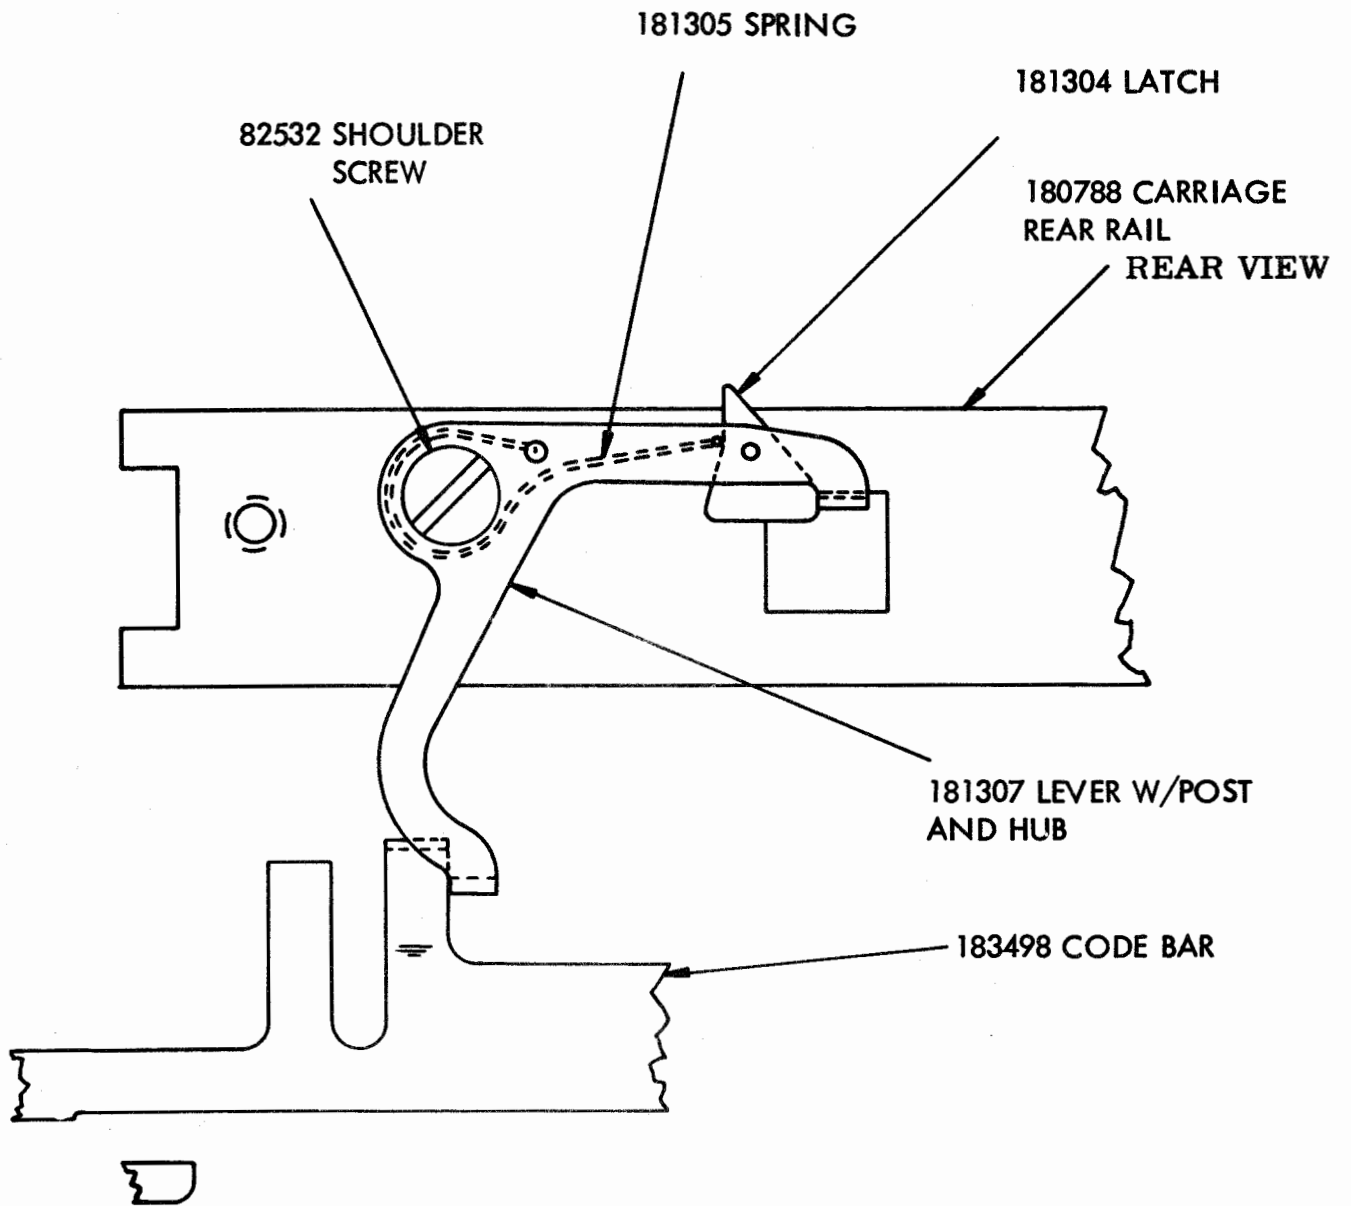

FIGURE 1
2. INSTALLATION (Figures 1 and 2)
c. Remove the 180788 carriage rear rail, this can be done without removing the carriage being careful to slide the bar out to the right. Assemble the 181307 lever with post and hub, 181305 spring, 181304 latch and 82532 screw. Apply a slight film of "glyptal" to the threads of the 82532 shoulder screw just before assembly. (See Figure 1)